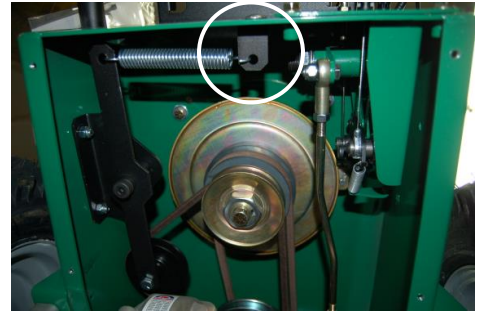

Fig. 9
3. Unattach the spring (item 50) from the bracket (item 98) that is keeping tension on the drive belt. (See Fig. 9)
4. Walk the belt (item 121) off of the clutch (item 54) by slowly pulling the engine over. **WARNING:** use caution not to pinch fingers between the belt and clutch.